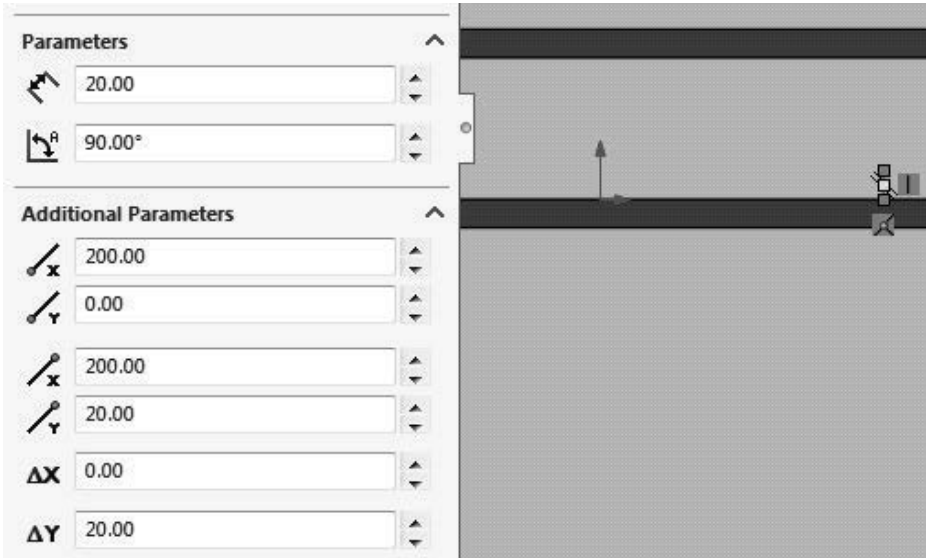

Figure 2.7 Parameters for vertical line
- Draw a vertical line in the Y-direction in the front plane starting at the lower inner surface of the sketch. Set the **Parameters** and **Additional Parameters** to the values shown in figure 2.7. Close the **Line Properties** dialog  and the **Inert Line** dialog.